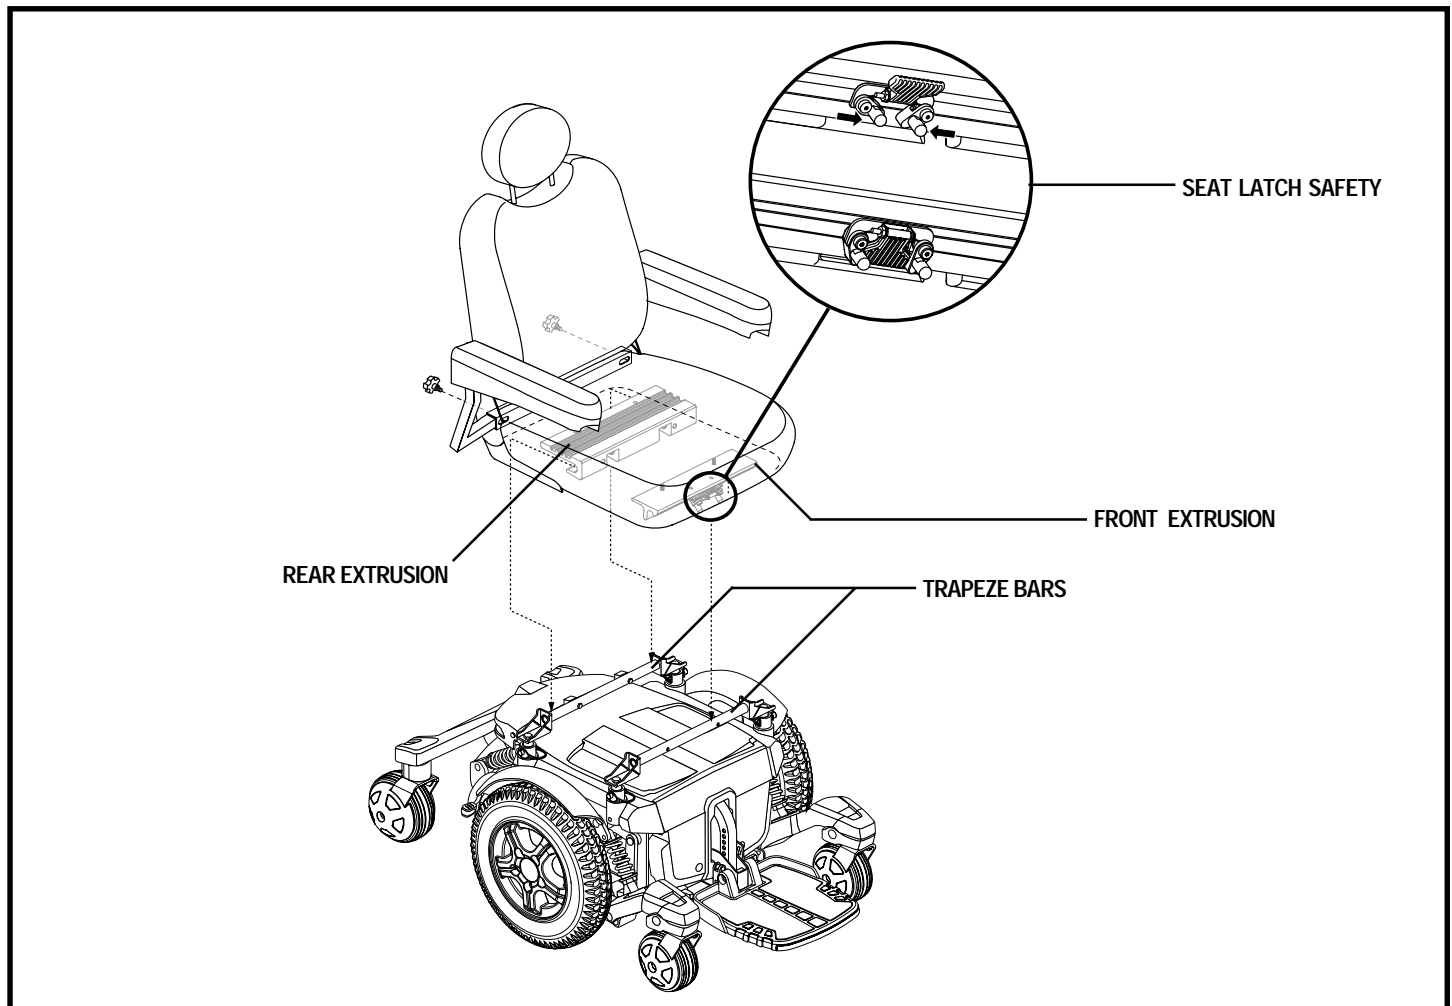

Figure 11. Universal Mounting System
It may be necessary to install the seat either prior to initial operation or after transporting your power chair. High-back seats are attached to the power base with the Universal Mounting System (UMS). The UMS consists of universal parts that may be attached to the seat, regardless of seat width or seat depth. The two main components are aluminum extrusions mounted to the seat base. These extrusions attach to a pair of trapeze bars that are mounted to the power base. See figure 11. If your power chair is equipped with a Synergy Seat or a Synergy TRU-Balance Power Tilt, refer to the information provided in separate manuals.
1. Tilt the seat back and slide the rear extrusion onto the rear trapeze bar. See figure 11.
5. Flip up the seat latch safety. See figure 11.